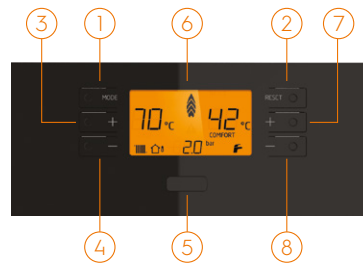

Figure 42 Control Panel of Viwa 50/65 Boilers
Flame modulation symbol appears on middle part of the display when boiler starts operating. In this mode, you can adjust the temperature with temperature setting buttons (see Figure 42) temperature can be increased with (3) **+** and reduced with (4) **-** set between 35 -80 °C, when these buttons are pushed, background light turns on and °C symbol and ° symbol blinks next to the temperature value.
Figure 42, and Hot Domestic Water temperature is set with no (7) and (8) buttons, and this temperature is shown on this display with no (10) indicator for Heating system and no (12) indicator for Hot Domestic Water.